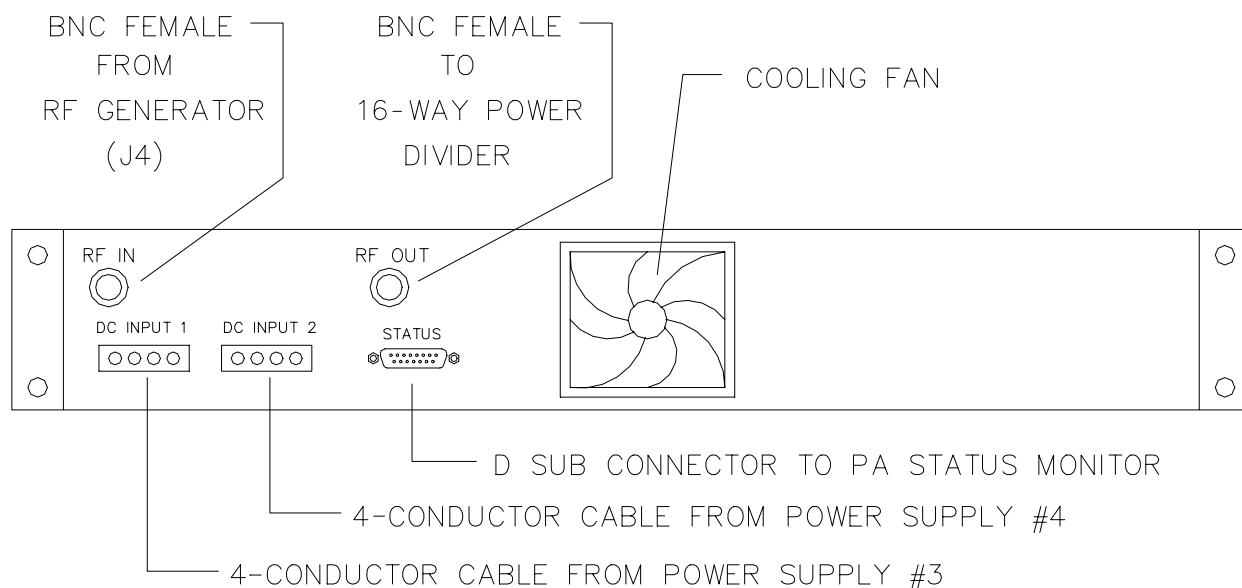

Figure 6-8 Dual RF Driver Rear Panel
4. Note the cable connections for future reference (see Figure 6-8). Disconnect the five cables from the rear panel of the Dual RF Driver.